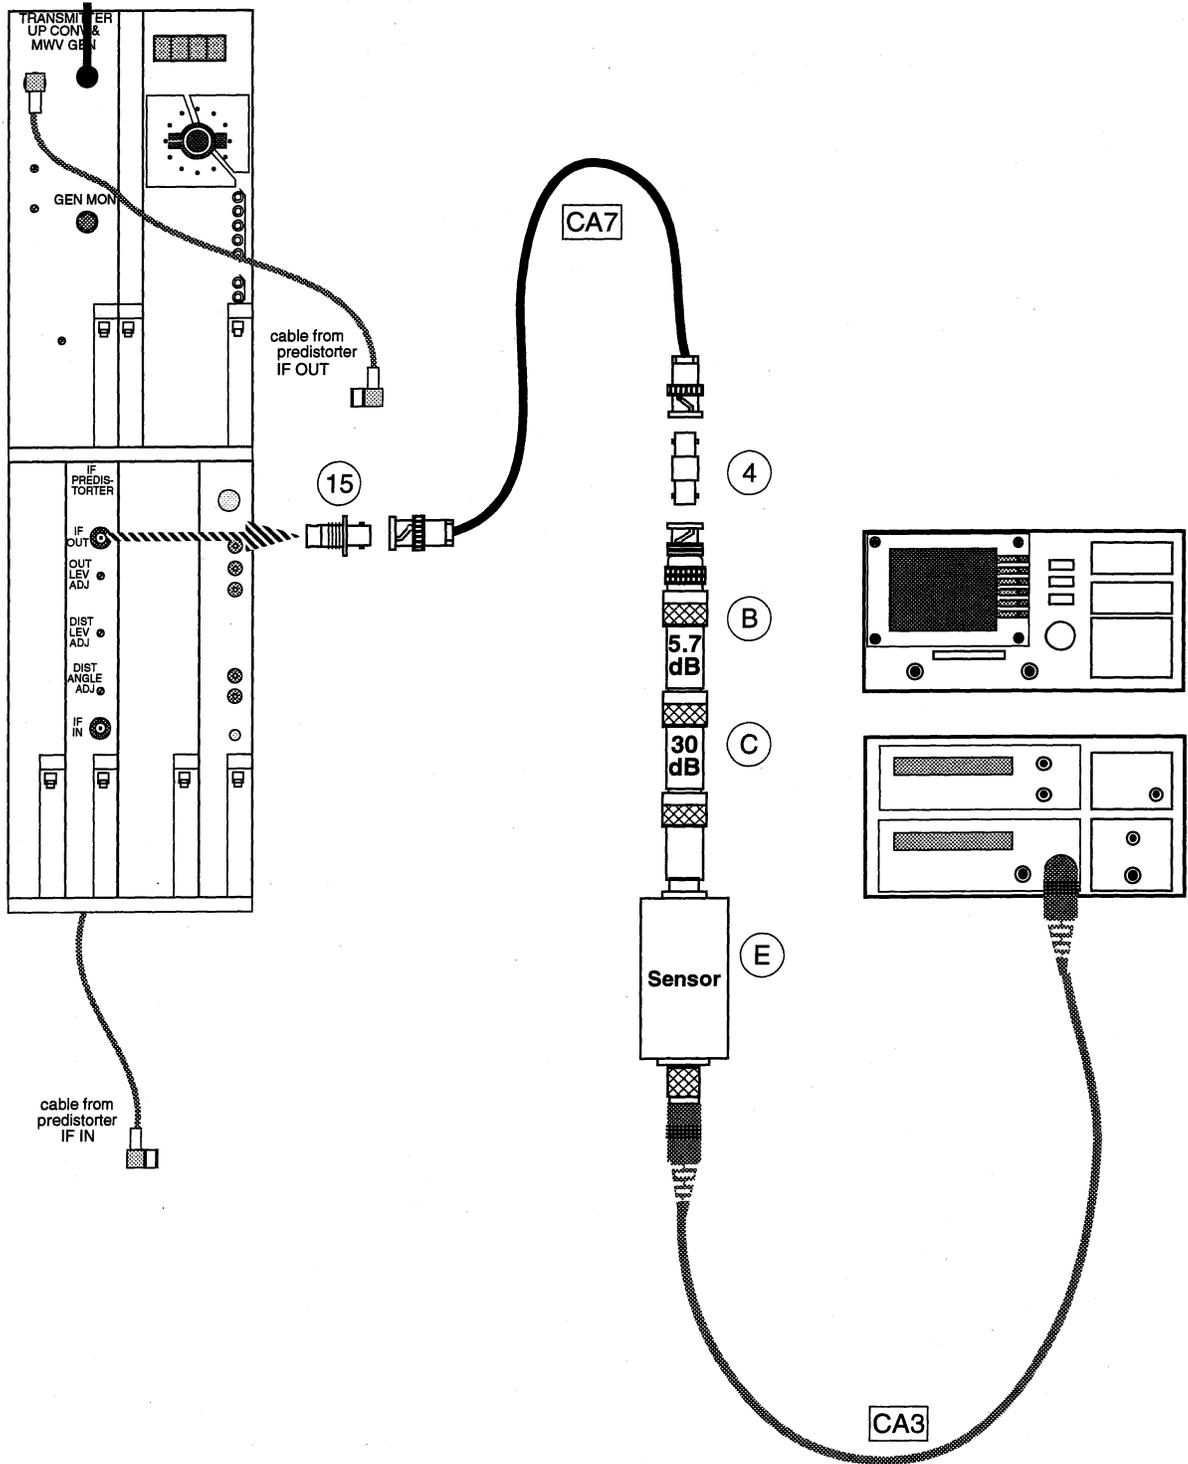

Figure 10. IF Predistorter Output Level Check
- 30 Connect the test equipment as shown in Figure 10.